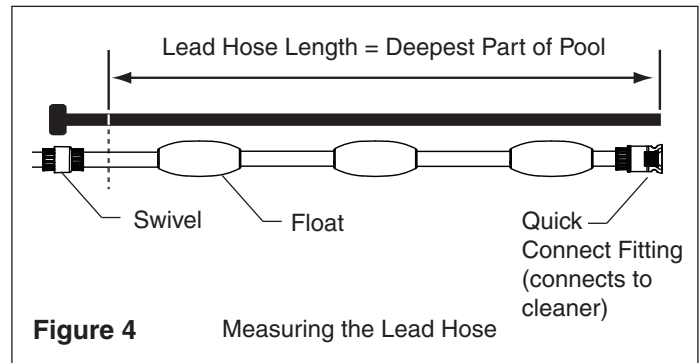

Figure 4
2. If the pool depth is less than 10 ft. [3 meters], disconnect the soft light grey lead hose, labeled section one, from the back-up valve. Cut the lead hose so the length with back-up valve is equal to the deepest part of the pool. See **Figure 4**.